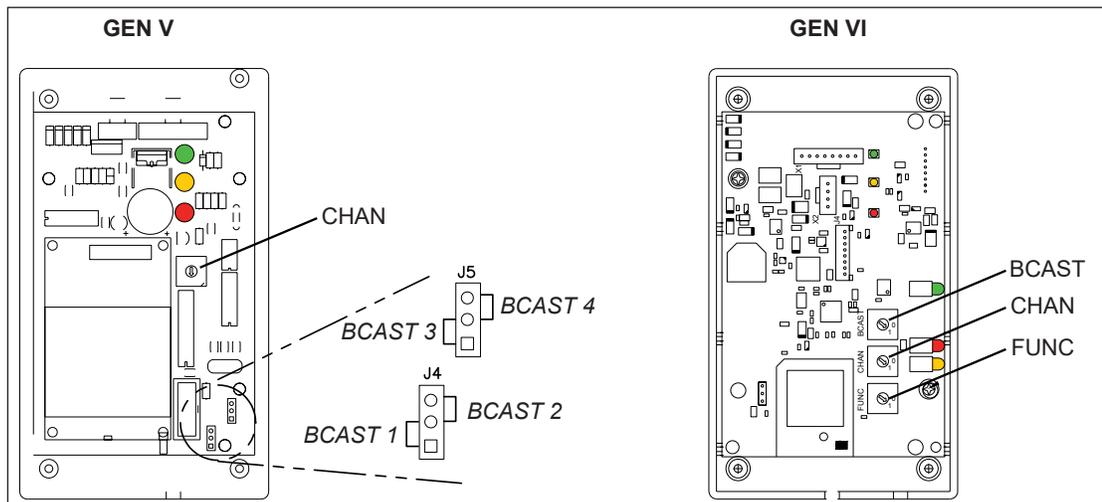

Figure 14: Radio Receiver Switches
3. The process of changing the radio settings depends on the generation of the radio. Refer to the instructions below and **Figure 14**.
3. Use a small flathead screwdriver to set the **CHAN** and **BCAST** switches to a new channel and broadcast group (1-8) as needed. The **FUNC** switch will typically be set to "2" for most scoring displays. Refer to **Figure 14**.